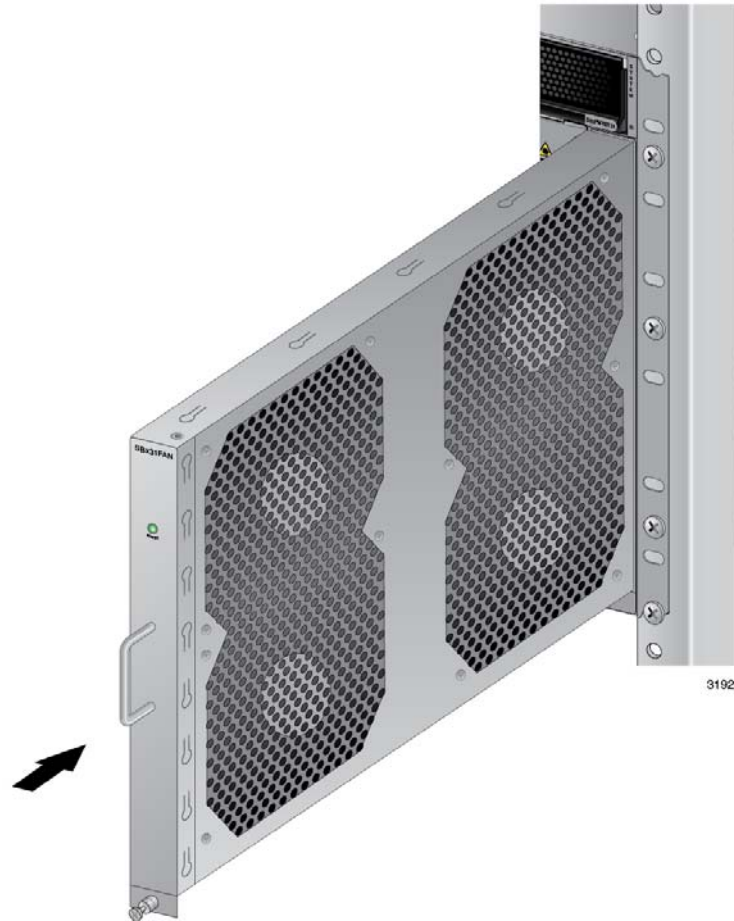

Figure 174. Installing a New AT-SBxFAN12 Fan Module
1. Orient the new module with the LED and module name on top and carefully slide the module into the slot in the chassis. Refer to Figure 174 on page 282.